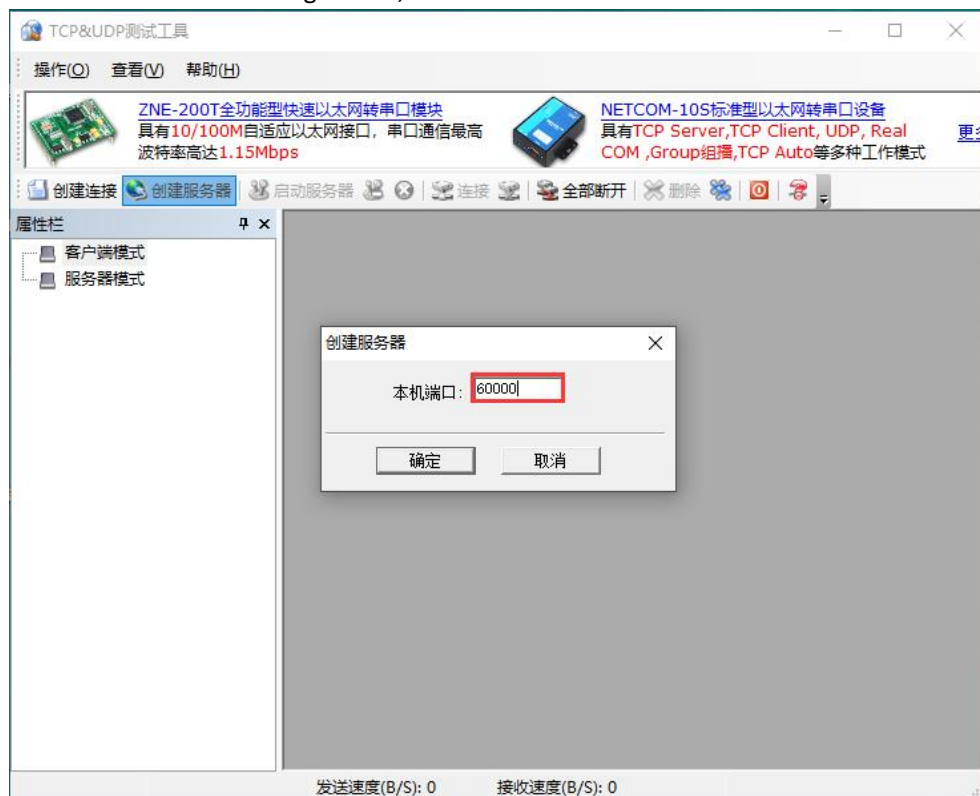

Figure 5-4 Network parameter setting interface
(2) Open "TCP & UDP Test Tool" on the computer AA, select Create Server, and set the local port number to 60000. As shown in Figure 5-4, then click Create.